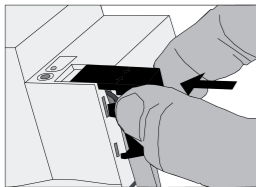

Figure 9: Installing the cover
- o Install cover on top of the bus terminal so that it snaps into place (figure 9).